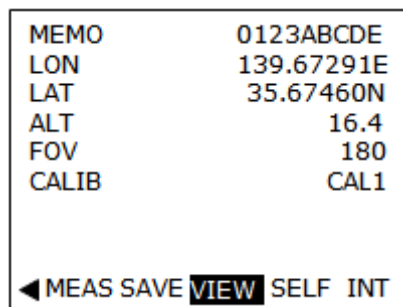
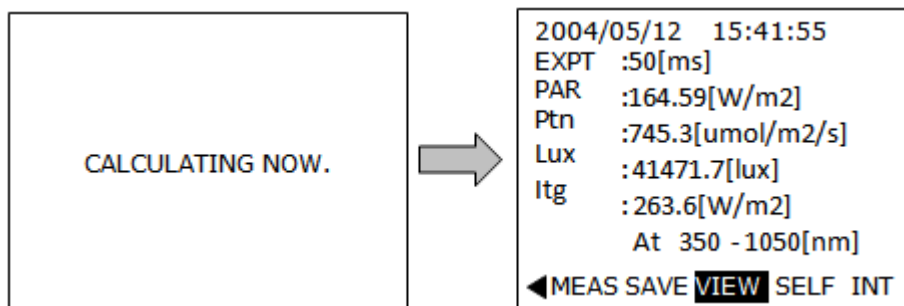

Figure 6-8. View Screen (Page 1)
Figure 6-9. View Screen (Page 2)
The information setup in the section [6-2. MS-720 Setup], [3. SYSTEM Setting] are displayed. (Figure 6-8).
- (2) Select [VIEW] again in View Screen.
- (3) Measurement time, [EXPT] (exposure/shutter opening time), PAR, Photon, Lux and the integral spectral irradiance in the specified spectral range (Itg), which were setup in the section [6-2. MS-720 Setup], are displayed (Figure 6-9). It takes approximately 3 seconds to calculate the contents on Page 2 (Figure 6-9).
- (4) To go back to Spectral Data Display Screen, press the center of tact switch at View Screen (Figure 6-9).
[MEAS] and [SELF] functions are also available in View Screen (Figure 6-8). When the measurement is performed in View Screen (Figure 6-9), the same screen is displayed again after the calculation.